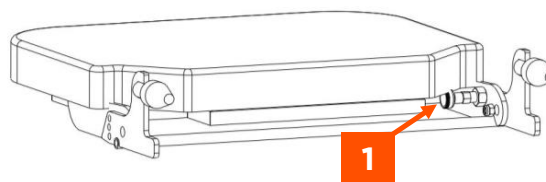

FIGURE 24
1. Locate the footplate angle adjustment plunger underneath the footplate (Fig 24, Item 1).